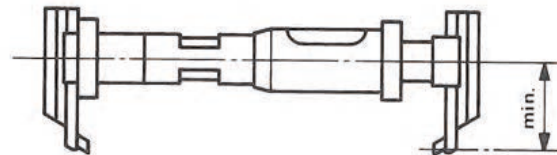

Fig. 8.
- Position the measuring arms to bring the contact points as near as possible to the centreline of the instrument, as shown in Fig. 8. Tighten the fixing clamps (15).